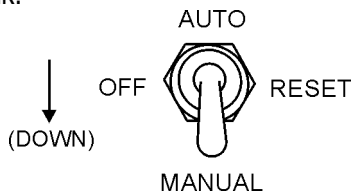

Figure 49. Off/Manual/Auto Switch (Manual)
7. Place the Off/Manual/Auto switch (Figure 49) in the **MANUAL** position (down). Observe that the engine begins to crank.